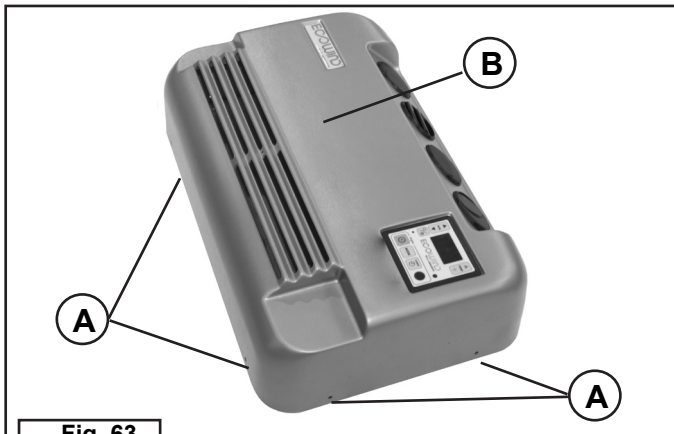

Fig. 63
3	Loosen and remove the 8 self-threading screws (A) holding the four sides of the cover (fig. 63).